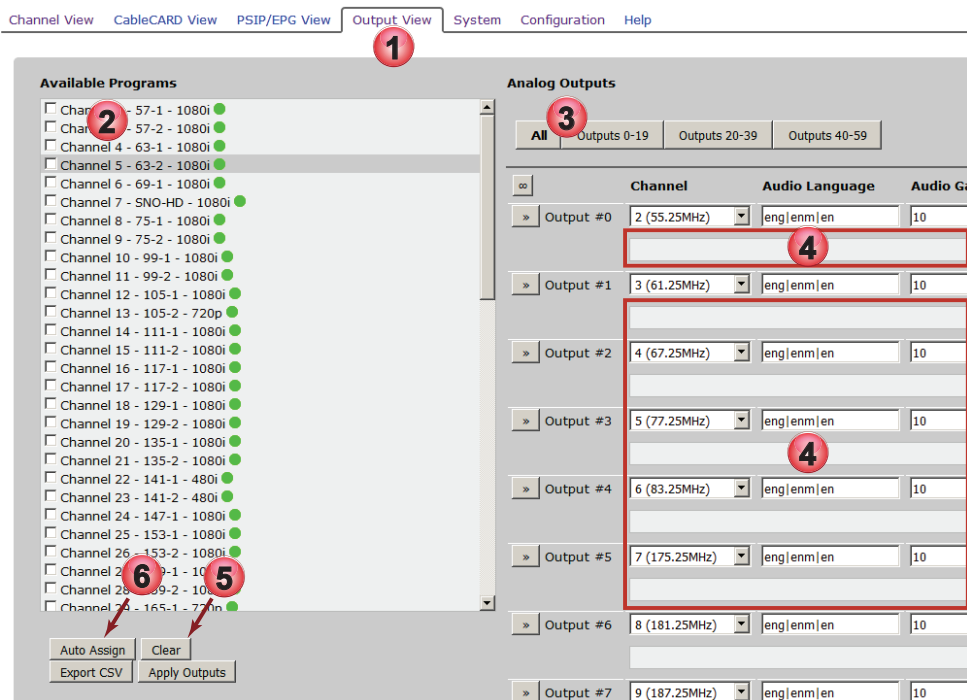

Figure 6-3: Programs Not Assigned
1. Click the **Output View** tab if it isn't already selected, Figure 6-3.
4. There are currently no programs assigned to any of the analog channels in Figure 6-3. The information boxes are not yet populated with program details. You can select a different group of channels by selecting the appropriate Analog Outputs group buttons ( ).